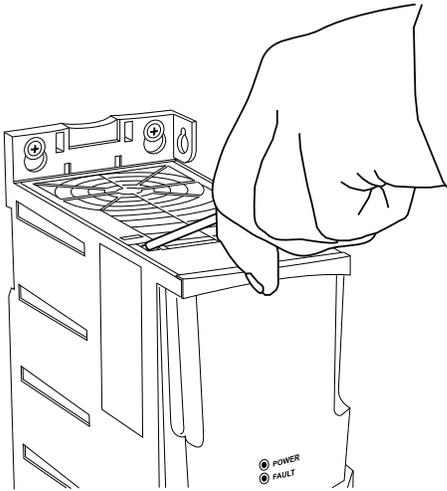

Fig. 32 — Remove Top Cover on ACS320 VFD
2. Insert a small straight blade screwdriver into the slot and press in to release the top cover as shown in Fig. 32.